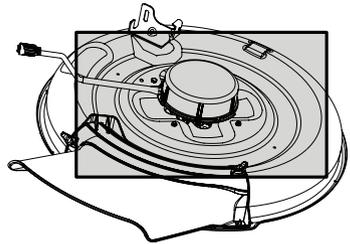

Figure 14
- Clean the top of the riding mower deck (Figure 14).